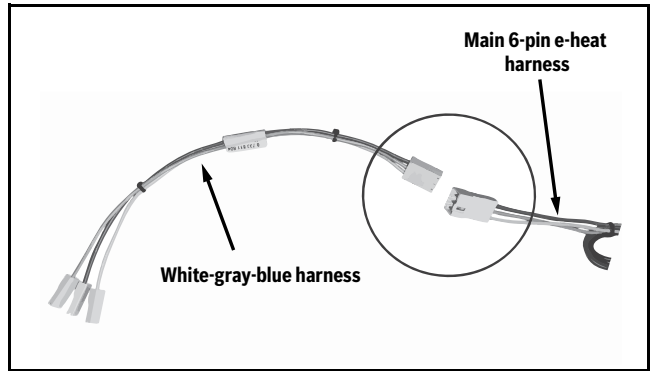

Fig. 43 Connect the White-Gray-Blue Harness to the Main 6-Pin E-Heat Harness
8. Connect the white-gray-blue harness to the main 6-pin e-heat harness. (→Refer to Fig. 43.)